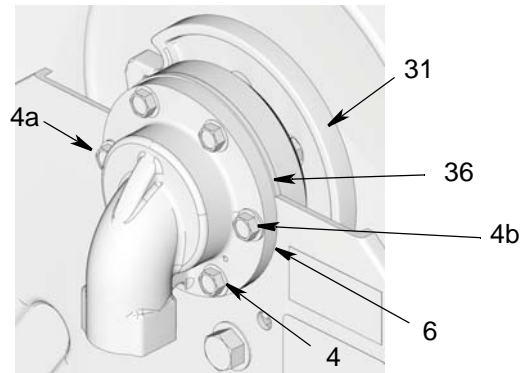

FIG. 21
4. Medium Pressure Models ONLY: Align shim (36) between inlet (6) and bearing retainer (35) (FIG. 21).
5. First install the side 2 bolts (4a and 4b) as shown in FIG. 21 through frame and inlet (6). Tighten bolts just enough to hold everything in place.
6. Then install the remaining four bolts (4). Hand tighten and then torque all bolts to 25 to 35 ft. lbs (33.9 to 47.45 N•m).